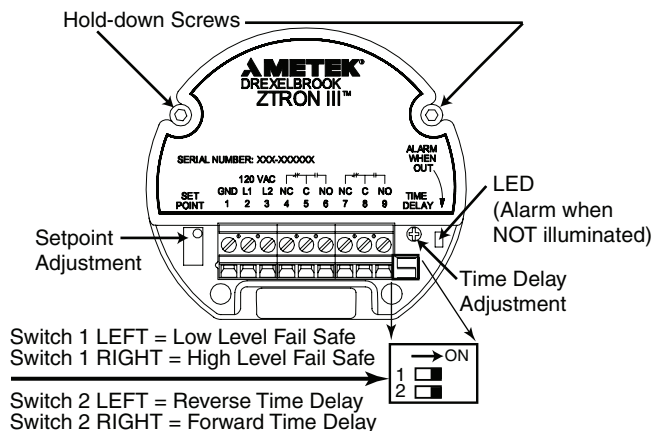

Figure 3-1
The time delay adjustment is located on top of the instrument, as shown in Figure 3-1. It is used to help stop an oscillating relay output due to agitation or waves in the vessel.
- The time delay action may be selected in the field using the slide switch #2 located on the top of the instrument. See Figure 3-1.
- The failsafe mode may be selected in the field by changing the position of slide switch #1 located on the top of the instrument. See Figure 3-1.
2. Change fail-safe selector switch (Fig 3-1). If LED does not change state along with relays, Electronic Unit has failed.
4. As in Section 3.1, start with setpoint adjustment in extreme counterclockwise (CCW) position, turn screwdriver clockwise (CW) until relay just operates.